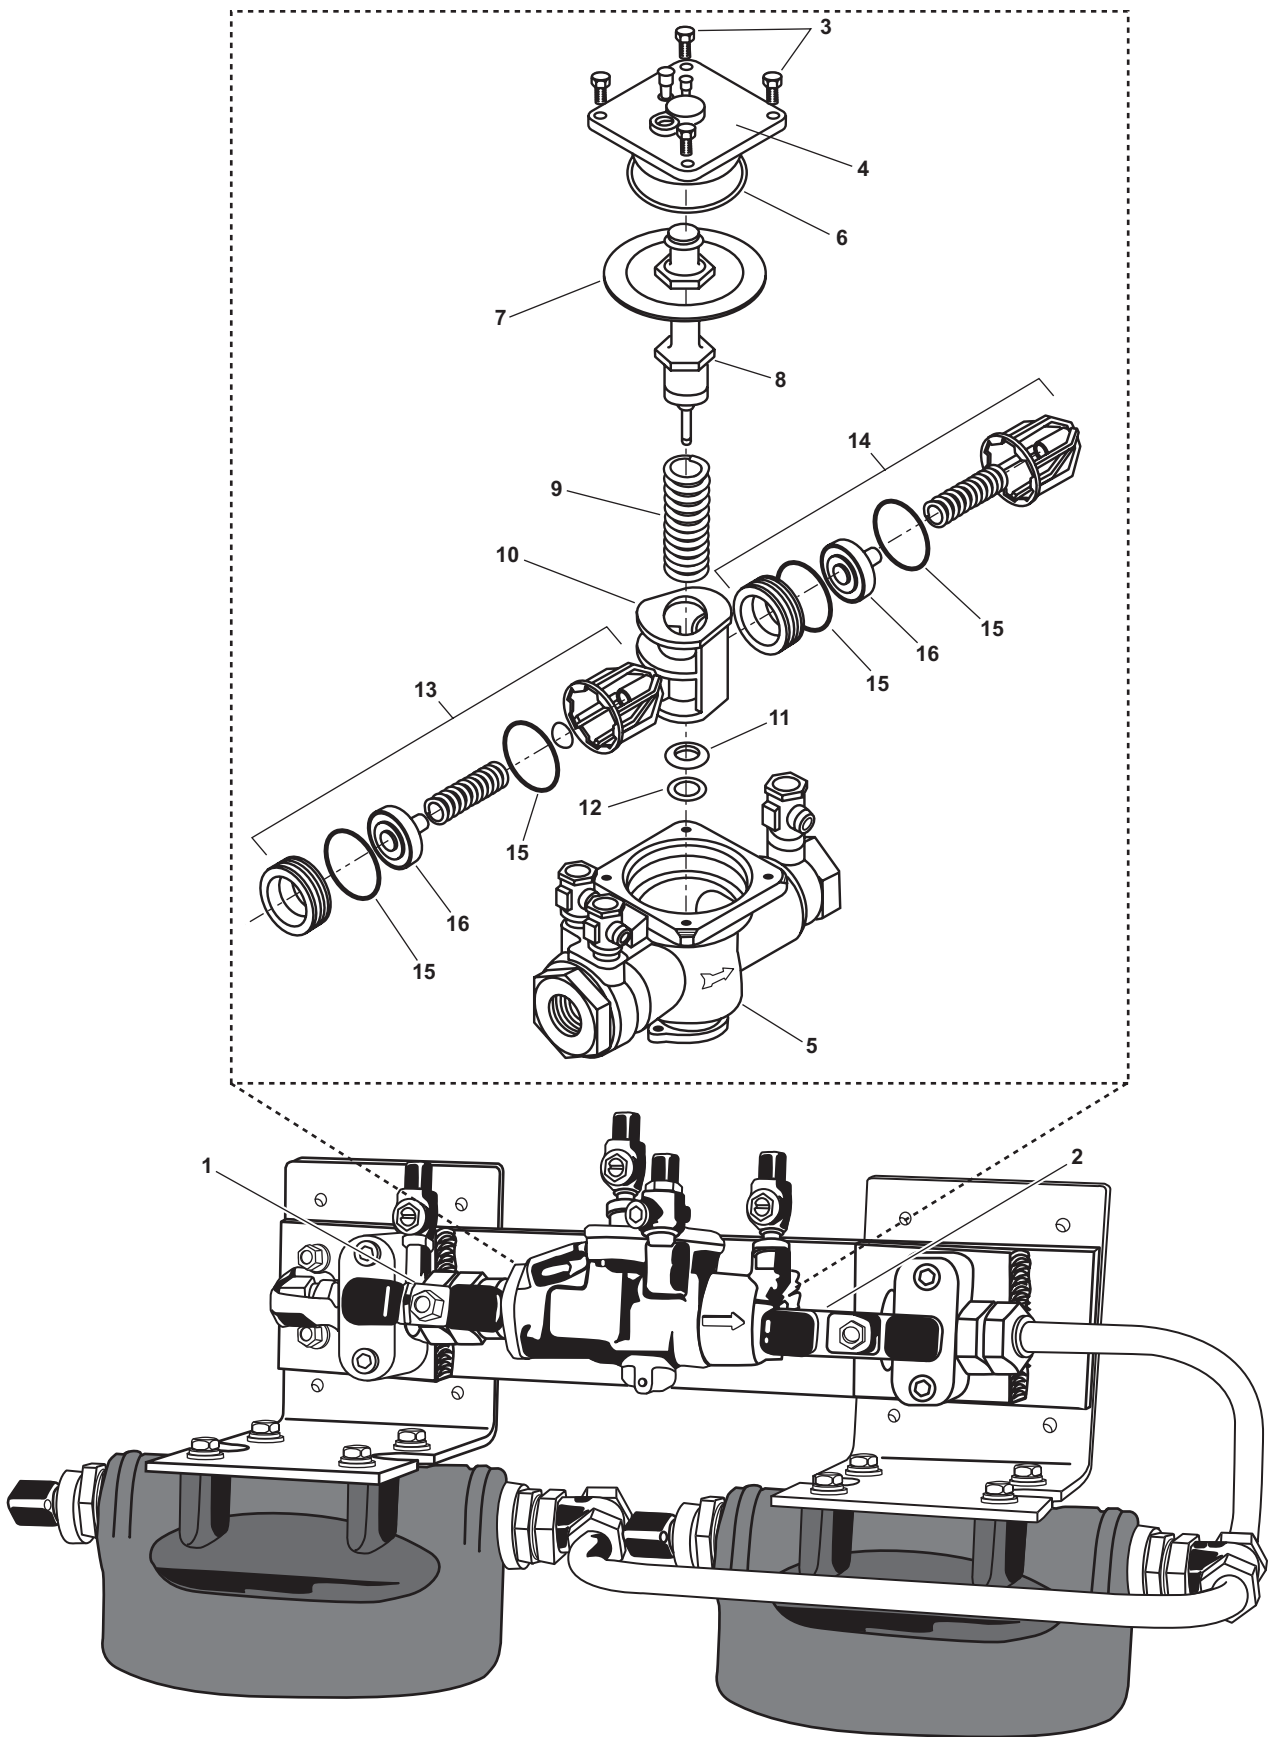

Figure 8. Backflow Preventer Valve
2. CLOSE the backflow preventer supply valve RO-V-6 (figure 8, item 1). Lock out and tag out (FM 55-502).
3. CLOSE the backflow preventer discharge valve RO-V-7 (figure 8, item 2). Lock out and tag out (FM 55-502).
4. Remove the four cover bolts (figure 8, item 3) and remove the valve cover (figure 8, item 4) from the valve body (figure 8, item 5).
5. Remove the cover O-ring (figure 8, item 6), diaphragm (figure 8, item 7), and stem (figure 8, item 8). Discard the cover O-ring and diaphragm.
6. Remove the valve spring (figure 8, item 9).
7. Remove the retainer (figure 8, item 10) from the valve body (figure 8, item 5).
8. Remove the seat (figure 8, item 11), and seat O-ring (figure 8, item 12) from the valve body (figure 8, item 5). Discard the seat and seat O-ring.
9. Remove the first check assembly (figure 8, item 13) and second check assembly (figure 8, item 14) from the valve body (figure 8, item 5).
10. Hold the check cage in one hand while turning the seat clockwise to separate the parts of the first check assembly (figure 8, item 13) and the second check assembly (figure 8, item 14).
11. Remove and discard the O-ring seals (figure 8, item 15) and disc assemblies (figure 8, item 16) from the first check assembly (figure 8, item 13) and second check assembly (figure 8, item 14).
12. Use clean wiping rags and water to clean and remove any debris and foreign matter from the interior of the valve body (figure 8, item 5), and clean all remaining parts with fresh water.
1. Assemble the first check assembly (figure 8, item 13) and second check assembly (figure 8, item 14) using new O-ring seals (figure 8, item 15) and disc assemblies (figure 8, item 16).
2. Install the first check assembly (figure 8, item 13) and second check assembly (figure 8, item 14) in the valve body (figure 8, item 5).
3. Install a new seat O-ring (figure 8, item 12) and a new seat (figure 8, item 11) in the valve body (figure 8, item 5).
4. Install the retainer (figure 8, item 10) in the valve body (figure 8, item 5).
5. Install the valve spring (figure 8, item 9) by centering it on the seat (figure 8, item 11) in the valve body (figure 8, item 5).
6. Assemble the a new diaphragm (figure 8, item 7) and new stem (figure 8, item 8) as an assembly.
7. Install the new stem (figure 8, item 8) and a new diaphragm (figure 8, item 7) in the valve body (figure 8, item 5).
8. Install a new cover O-ring (figure 8, item 6) on the valve cover (figure 8, item 4).
9. Install the valve cover (figure 8, item 4) with the new cover O-ring (figure 8, item 6) on the valve body (figure 8, item 5). Verify that the valve cover presses flat against the valve body.
10. Install the four cover bolts (figure 8, item 3) to secure the valve cover in place (figure 8, item 4).